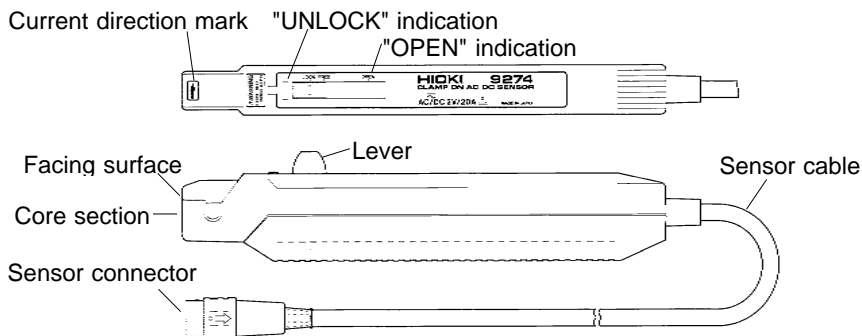

Figure 3 9274 Identification of Indicators
- (1) Select both ranges of the 3270 and the measuring equipment according to the input current value. (Refer to Table 1 in Section 1.4.3.3.)
- (2) Set the coupling switch to DC.
- (3) Adjust the GND level of the measuring equipment (oscilloscope, etc.).
- (4) Set the measuring equipment for DC coupling.
- (5) Before clamping the sensor to the conductor to be measured, press the demagnetizing switch.
- (6) Turn the zero adjustment dial and adjust the output voltage to zero (GND level).
- (7) Pull the lever of the sensor towards the "OPEN" indication to open the core section. (Refer to Figure 3, 9274 Identification of Indicators.)
- (8) Position the sensor so that the current direction mark on the sensor part points in the direction of the load and so that the conductor being measured is centered, and then close the core section with the lever.